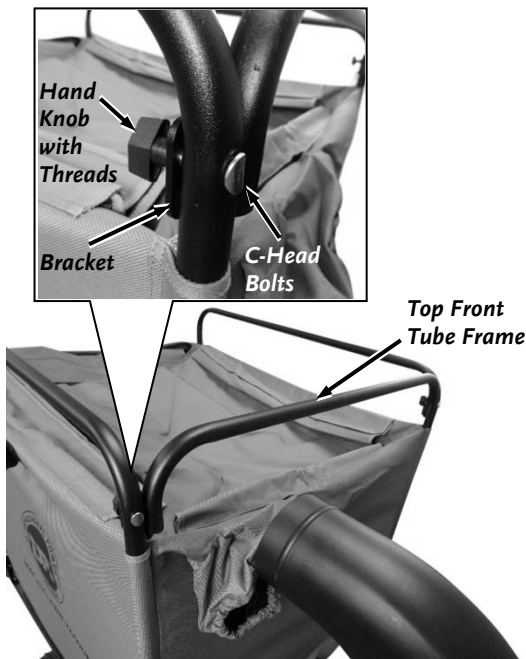

Figure 37
16. Install the top front Tube Frame to the side Tube Frames and secure with two C-Head Bolts and Knobs (**Figure 37**).